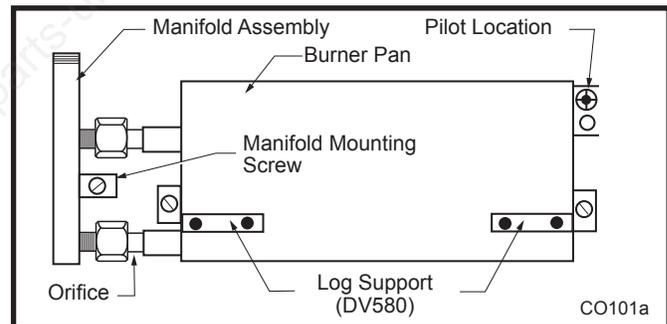

Fig. 69 Remove manifold assembly.
- Remove manifold mounting screw from burner. (Fig. 69)